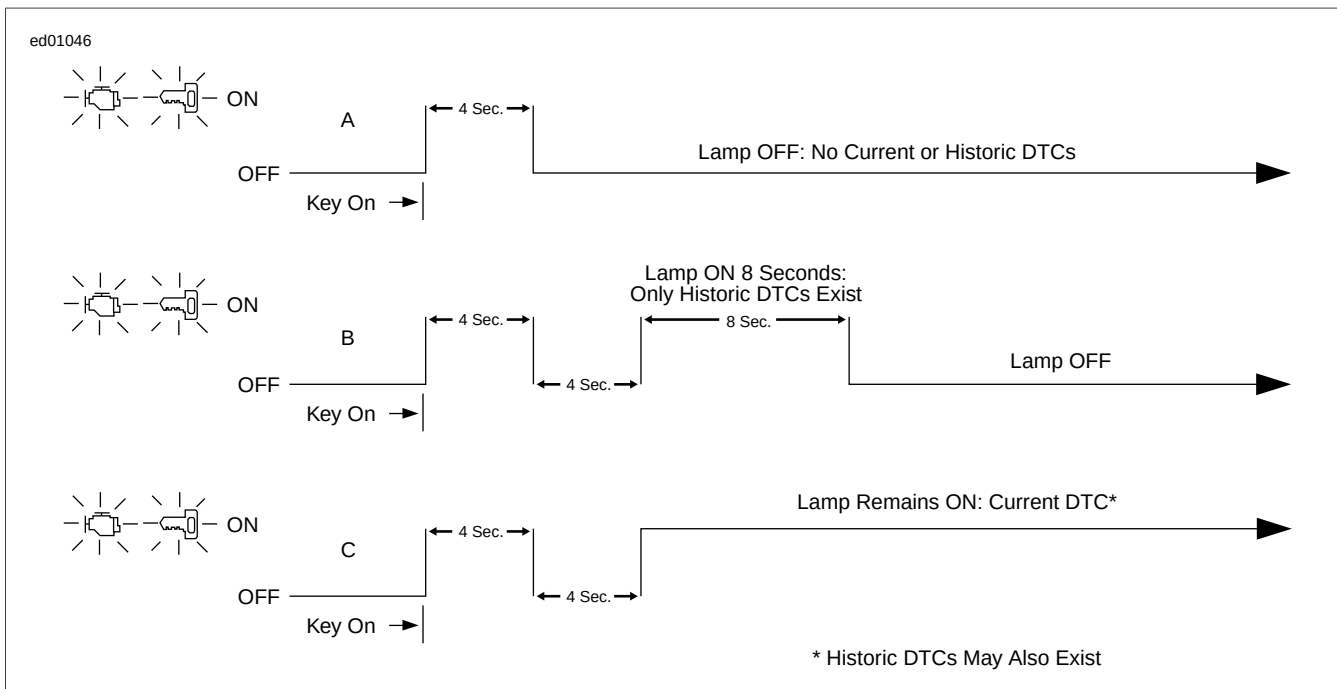

Figure 4-5. Check Engine Lamp Operation
1. See Figure 4-5. When the lamp turns off after being illuminated for the first four-second period, it will:
Historic codes are stored for a length of time to assist in the diagnosis of intermittent faults. See Figure 4-5. The check engine lamp will come back on for 8 seconds to indicate the existence of only historic codes.